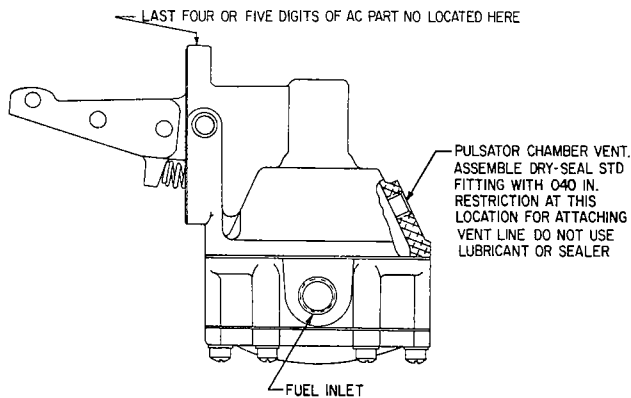

Figure 1. AC Fuel Pump with Vent in Upper Chamber
All the fuel pumps affected by this bulletin have a single vent opening in the upper chamber as shown in figure 1, except the P/N 73870 (AC 5656696) which has
1. Determine applicability of this procedure by observing the AC fuel pump part number stamped on the upper edge of the mounting flange as shown in figure 1. Only the last four or five digits of the AC part number are stamped on the pump.